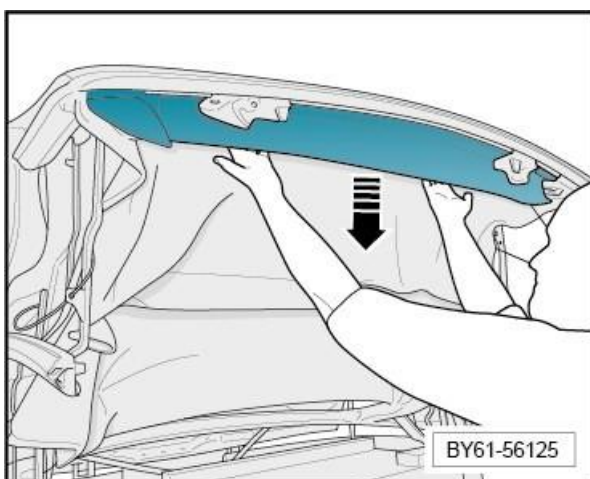

Figure 3
- With extreme care - Take hold of the header trim panel as shown, and carefully pull it downwards from the rear to release it from the hood frame (Figure 3)